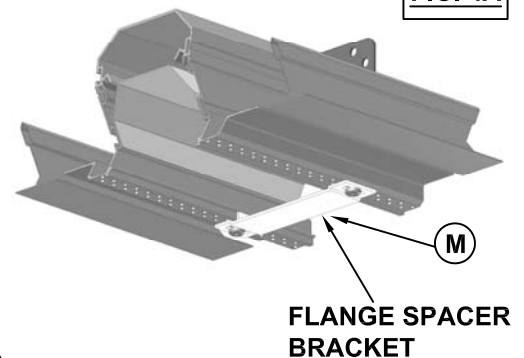

FIG. 4A
INSTALL REFLECTORS AND ROTATE FLANGE SPACER BRACKET INTO POSITION AND SECURE TO PERFORATED FLANGE WITH SCREWS PROVIDED. (FIG. 4A)
INSTALL REFLECTORS (YOKE MOUNTING ONLY) ROTATE FLANGE SPACER BRACKET (M) SERRATED SECTION (I) OF FIXTURE WITH SELF DRILLING DRYWALL SCREWS. INTO POSITION AND SECURE TO PERFORATED FLANGE WITH SCREWS PROVIDED. (FIG. 4A)